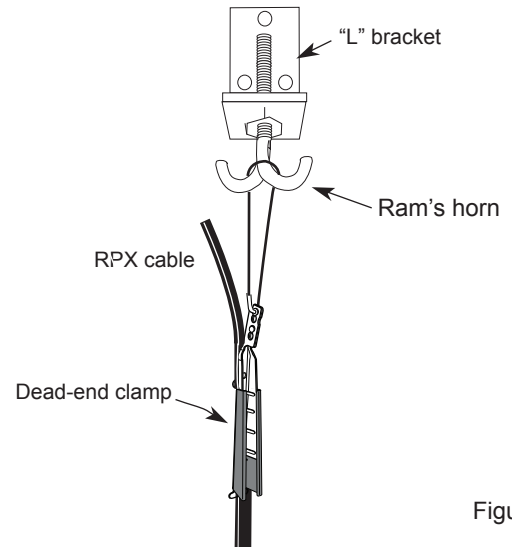

Figure 7
5.9 Secure the RPX cable leader to the building wall with a ram's horn/eye bolt and dead-end clamp. After the clamp is secured cut off any excess cable slack (Figure 7).